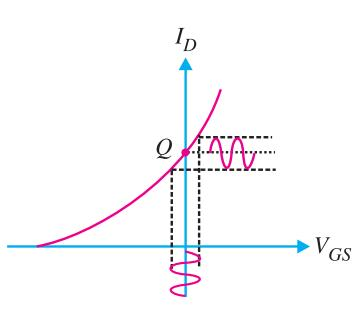

Fig. 19.50
**Zero bias.** Since a D-MOSFET can be operated with either positive or negative values of  $V_{GS}$ , we can set its Q-point at  $V_{GS} = 0V$  as shown in Fig. 19.50. Then an input a.c. signal to the gate can produce variations above and below the Q-point.